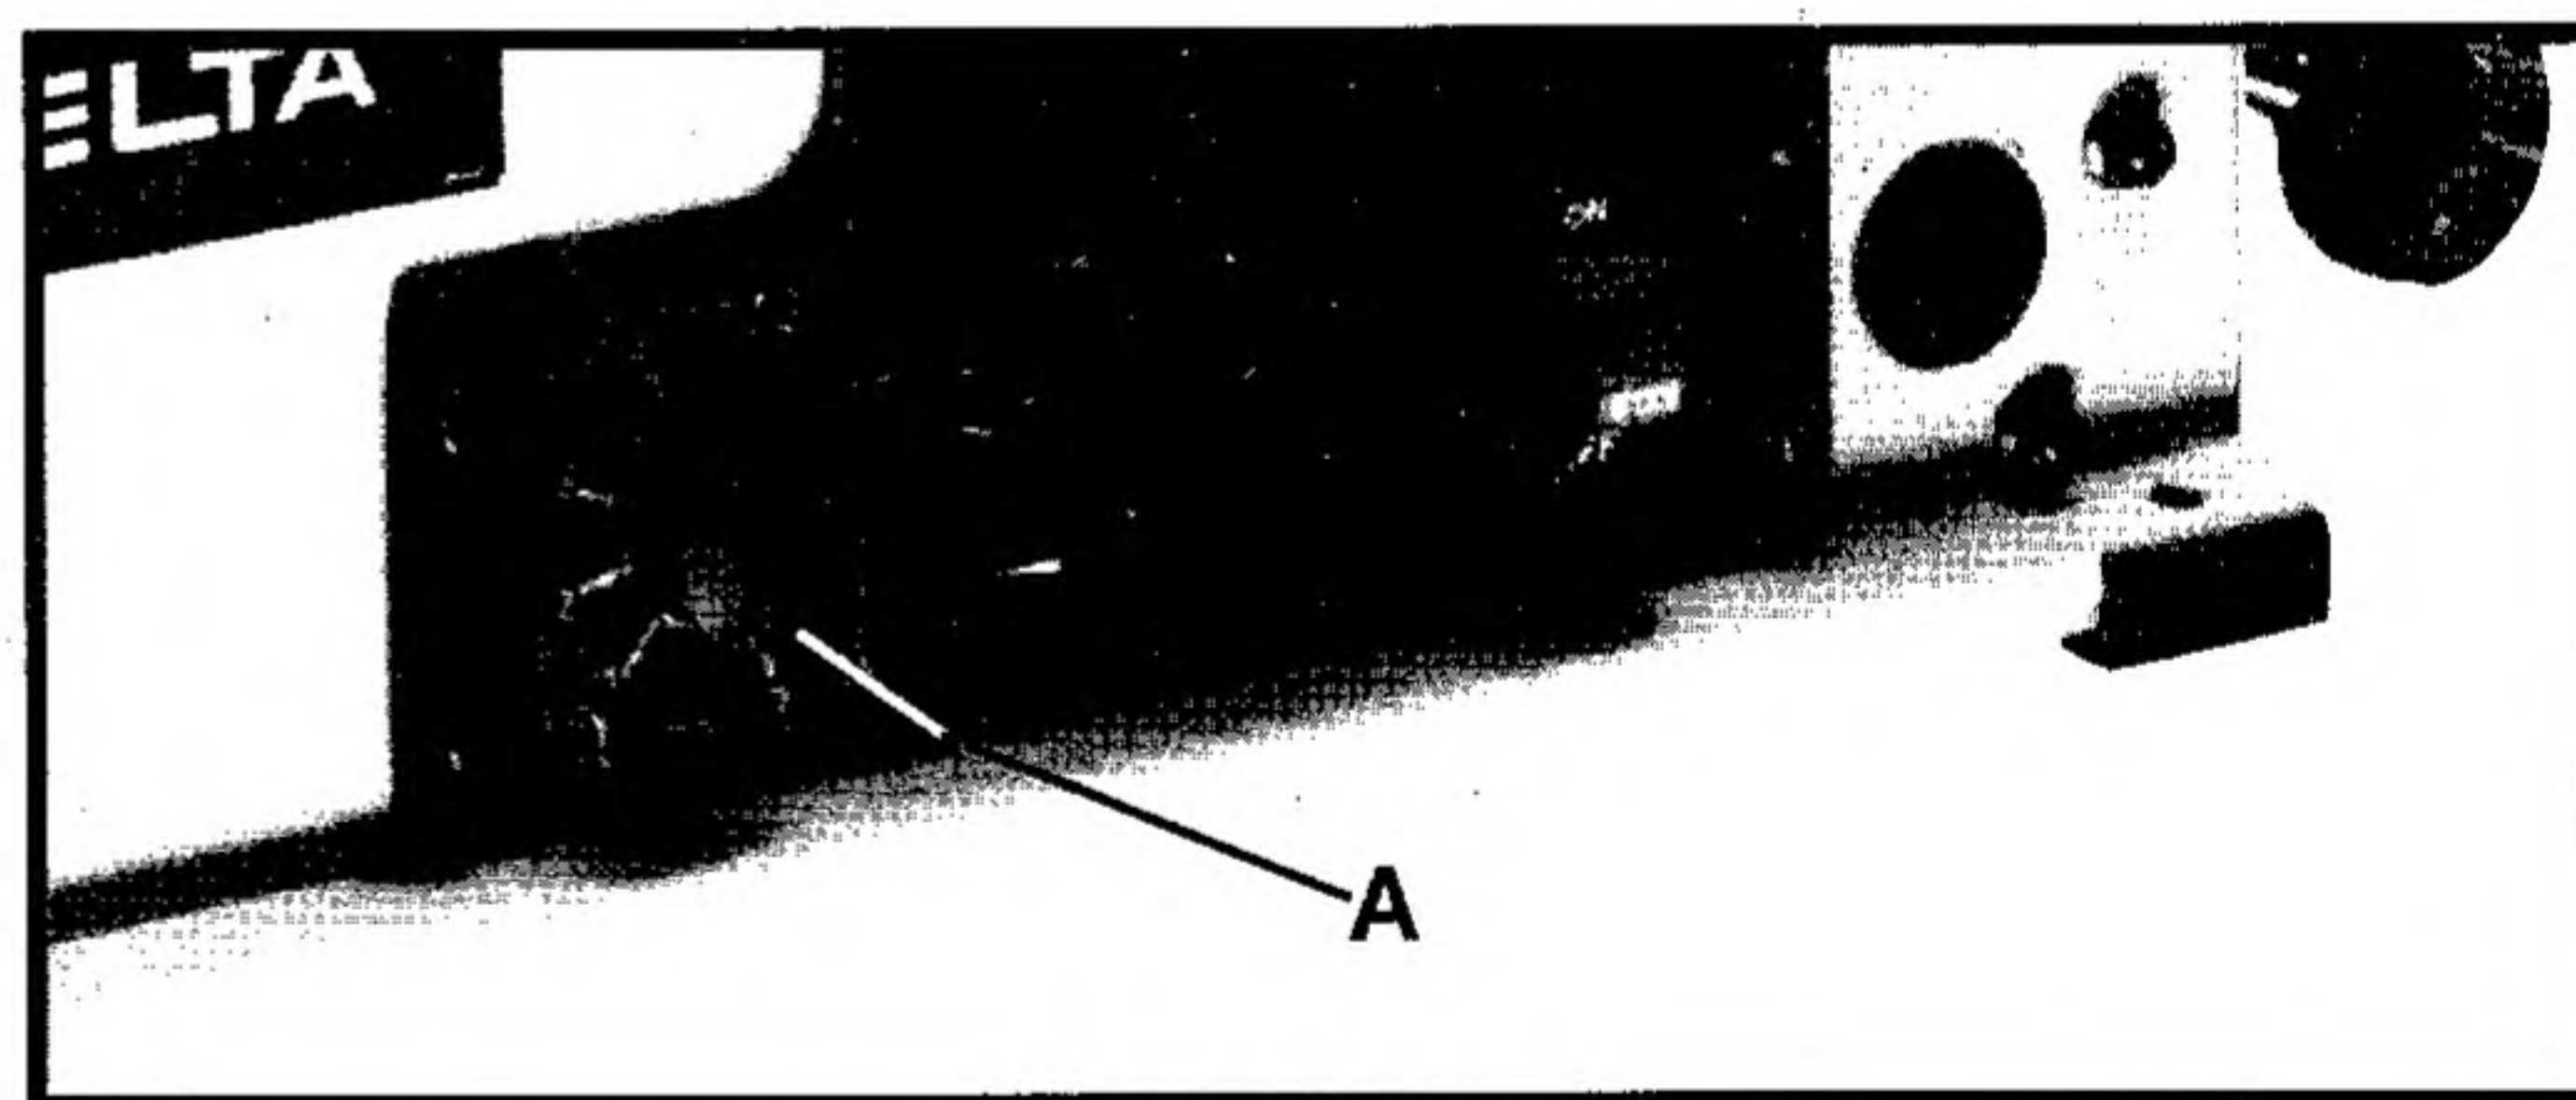

Fig. 23A
Your jointer is supplied with variable speed control (A) Fig. 23A that enables you to operate the machine at cutterhead speeds between 6000 and 11,000 RPM. Speed indicators of 1-2-3-4 and 5 are provided on the speed dial. When the pointer (B) is pointing to 1, the cutterhead speed will be 6000 RPM; 2 – 7250 RPM; 3 – 8800 RPM; 4 – 9750 RPM; and 5 – 11,000 RPM.